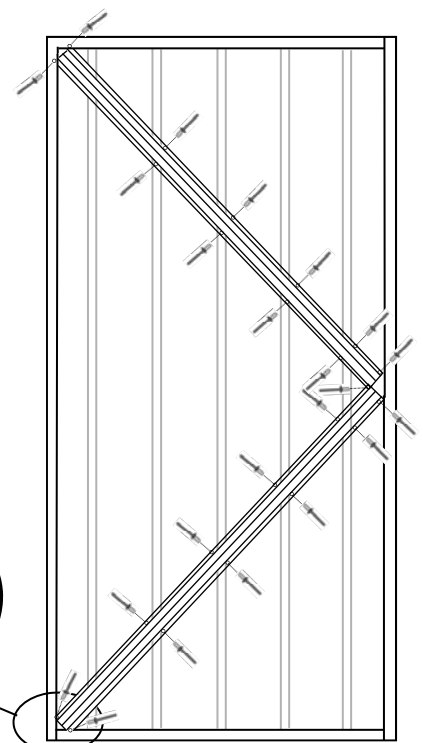

fig.3
- On the back of the door, place door braces in position as shown in **fig.3**.